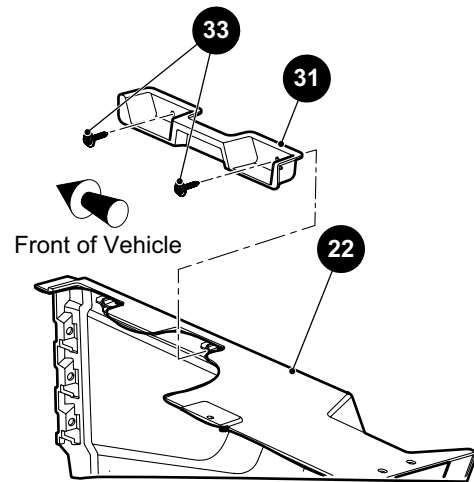

Figure 10 Seat Filler Panel
Remove screws (33) securing seat filler panel (31) to side panel (22) (Figure 10).